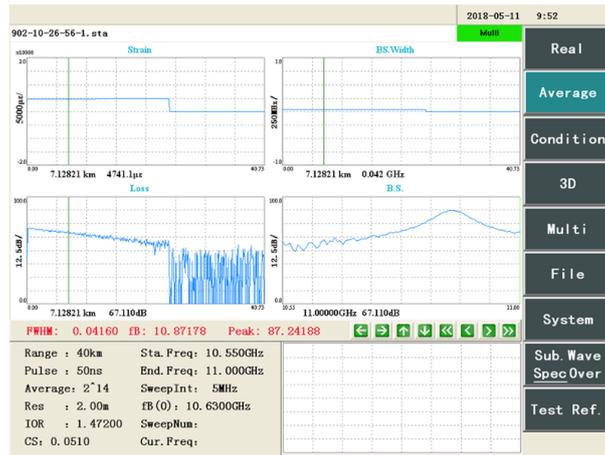

Figure 8-9 [Average] button changes to light blue
Step 3: Click the button [Test] on the front panel or the menu button [Average] to start the strain test. The background color of the [Average] button in the main function menu changes to **light blue**. After the test is completed, the [Average] button restores the primary color, the curve of [strain distribution] and [spectral width distribution] is displayed in Figure 8-9.